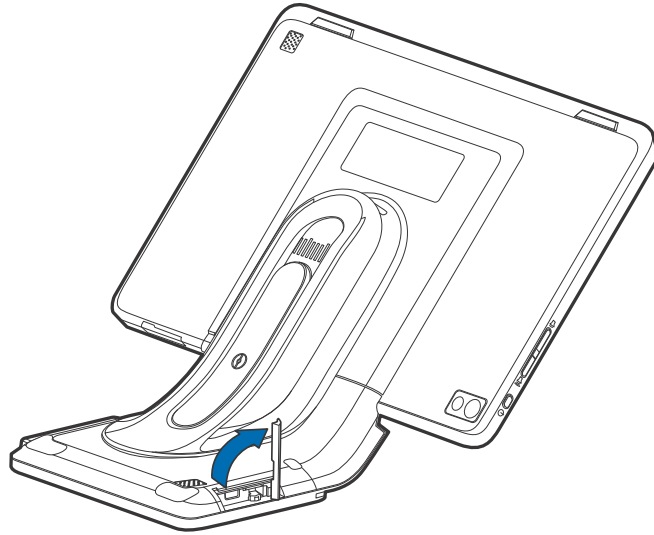

Figure 11 **Opening the MSAM Cover**
- 3 Hook your finger on the latch and lift the cover to access the MSAM card slot (see Figure 11).